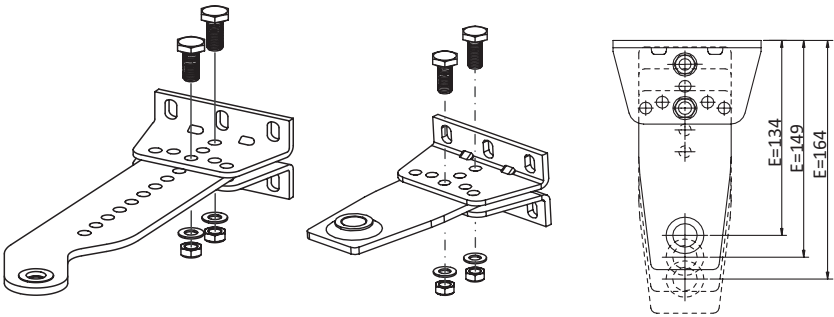
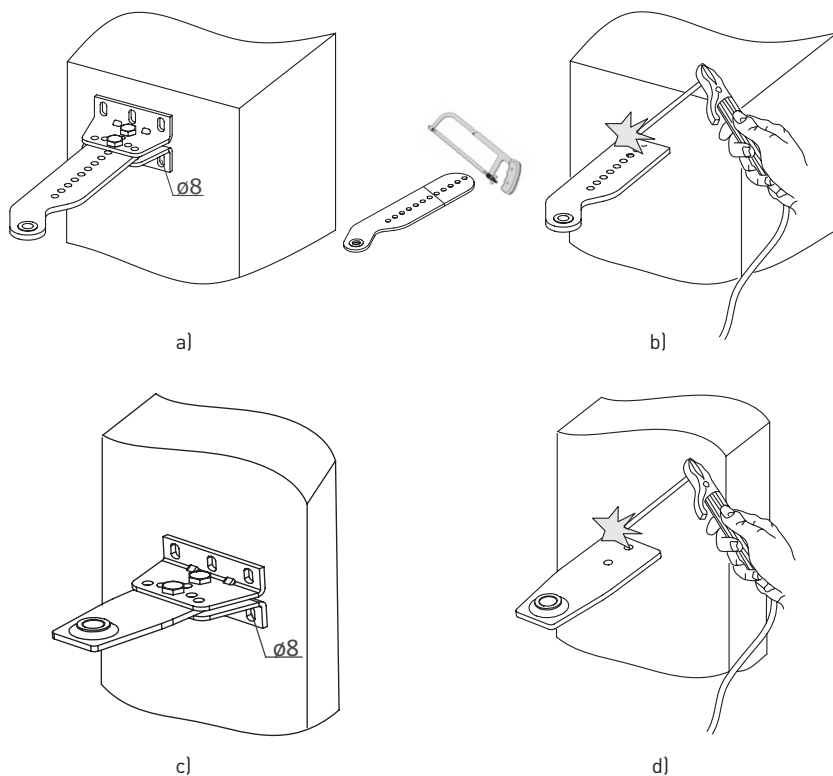
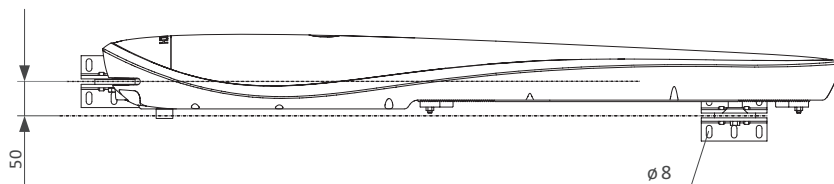

Figure 8. Assembling a rear, front fitting
Figure 9. Mounting a rear or front fitting
Figure 11. Mounting a front fitting
E — dimension between a leaf edge and the axis for mounting a drive on its front fitting (fig. 8), minimum dimension E=134 mm; α — leaf opening angle;
- after defining the mounting dimensions, **A** and **B** and a location to attach a rear fitting to the post, select an assembly type for the rear fitting (*tab. 6, fig. 8*). When needed, cut the bracket of the rear fitting to the required size. In case the bracket is not long enough, use improvised materials to add length to the rear fitting.
- fix the rear fitting on the post, either bolting it down or welding (*fig. 9*). Make sure the fitting is positioned horizontally. The fitting should be assembled and mounted rigidly.
- ensuring compliance with the mounting dimension **W**, fix the front fitting on the leaf (*fig. 11*). The length of the front bracket **E** can be adjusted (*fig. 8*), in this case note the condition **B > X**. In case the bracket is not long enough, use improvised materials to add length to the front fitting. The fitting can be bolted or welded to the leaf (*fig. 9*). Use a spirit level to verify throughout the mounting process.